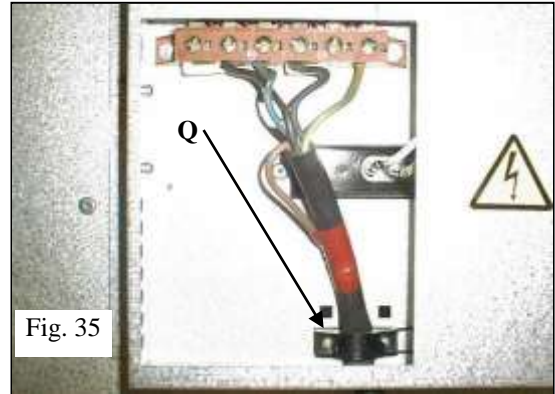

Fig. 35
- Secure the cable by means of cable clamp, item **Q** (Figure 35).
Screw the anti-tip bracket **T** to the wall according to figures 35 and 36 (screws not supplied).